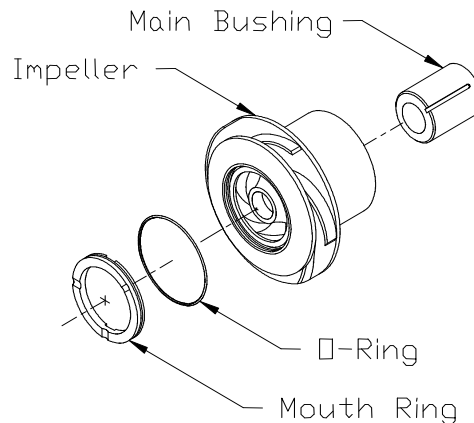

Figure 9-9 Impeller assembly (Keyed Bushing shown as the example)
- 5) Impeller consists of parts shown in Figure 9-9.